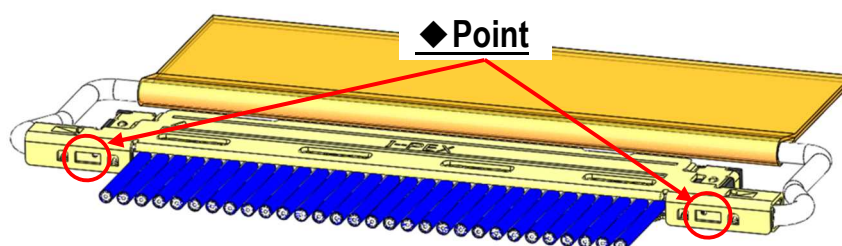

Fig.13 Soldering of SHELL-A and SHELL-B
- ④ SHELL-A and SHELL-B are soldered with the soldering iron. (Fig.13 ◆ point)
※ In case of soldering discrete cable, soldering at Fig.13 ◆ point is necessary.